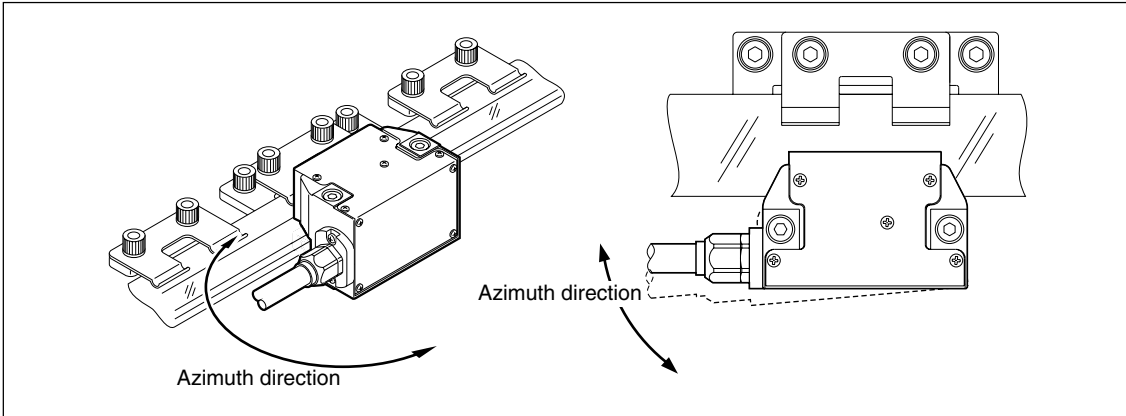

Fig. 3-18
- 2 Rotate the detector head as shown in Fig. 3-18, until you find the point where the amplitude of the Lissajous' figure is at a maximum.